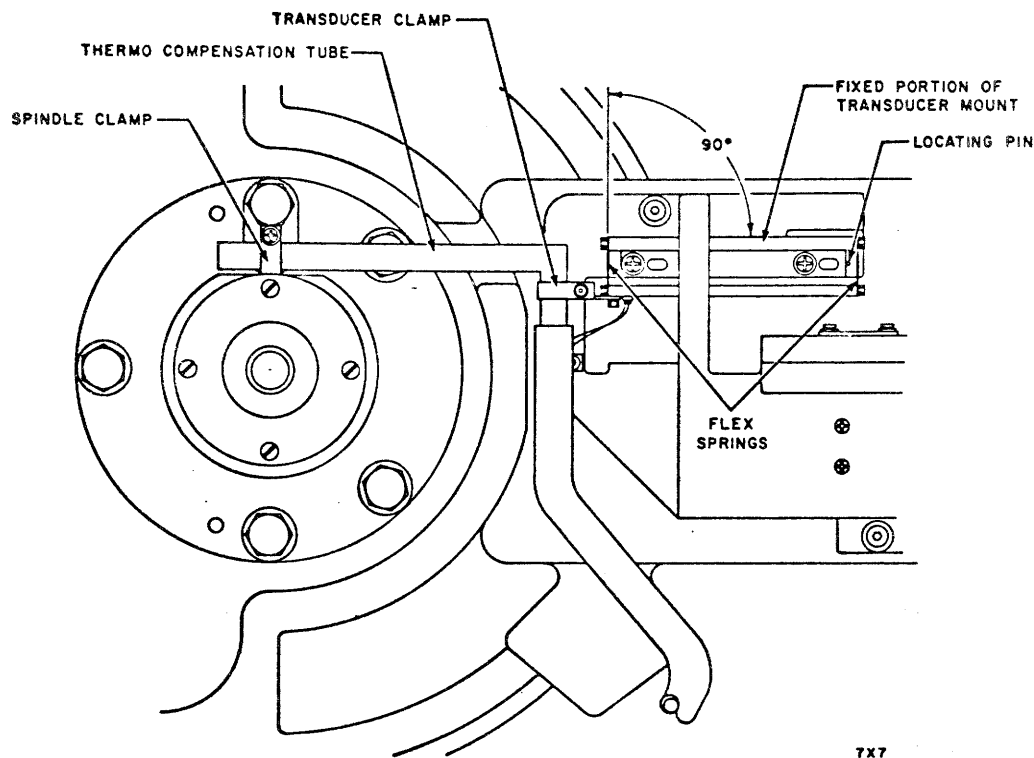

Figure 6-13. Fixed Transducer and Thermo Compensation Tube Installation
26. Position thermo compensation tube so transducer flex mounting springs are visually perpendicular to the fixed portion of the transducer, then tighten screw holding tube to spindle (Figure 6-13).